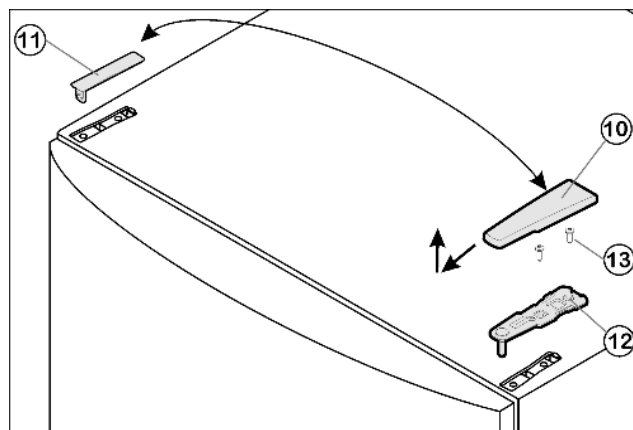

Fig. 4
- ▶ Pull off the cover Fig. 4 (10) forwards and upwards.
- ▶ Lift off the cover Fig. 4 (11).
- ▶ Unscrew the upper turn hinge Fig. 4 (12) (2 Torx 25) Fig. 4 (13) and raise it for removal.
- ▶ Insert the upper turn hinge Fig. 4 (12) in the door on the new hinge side.
- ▶ Screw down the upper turn hinge Fig. 4 (12) (2 Torx 25) Fig. 4 (13). Possibly make preliminary holes with a bradawl or use a cordless screwdriver.
- ▶ Snap the cover Fig. 4 (10) and cover Fig. 4 (11) into place at the opposite side.